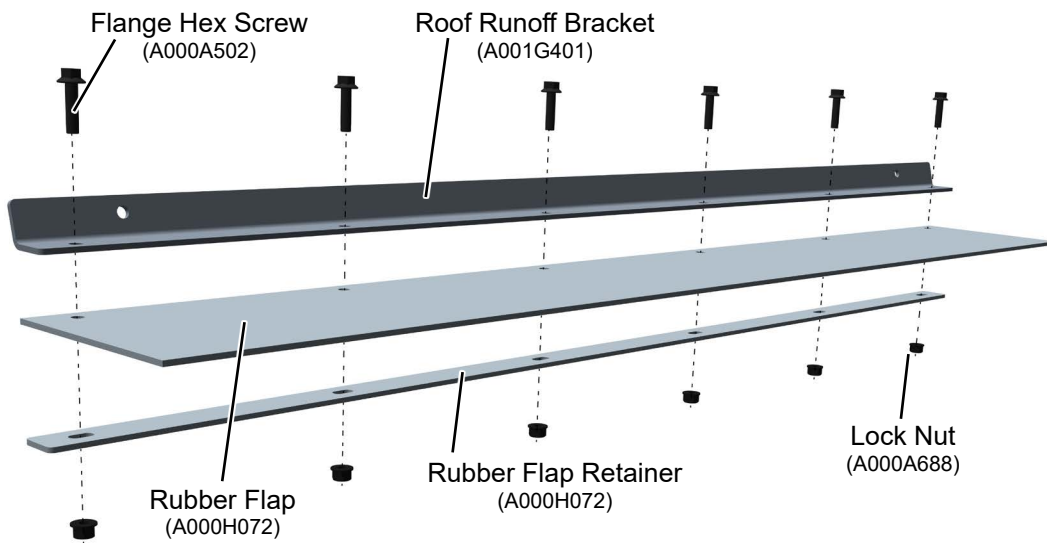

Figure 3. Deflector Assembly
7. Assemble cab roof deflector using 0.25-20 x 1.0" screws (A000A502), roof runoff bracket (A001G401), rubber flap (A000H072), rubber flap retainer (A000H072), and lock nuts (A000A688). Final tighten hardware to 11 ft. lbs. See Figure 3.